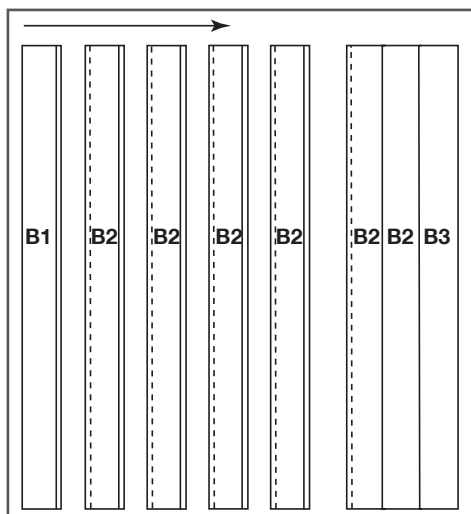

Figure 1
1. On a flat, clean surface, lay out the right slat (B3) with the groove facing to the left. Lay all middle slats (B2) next to B3 with the tongue facing to the left. Lay the left slat (B1) to the left of the last B2 slat with the groove facing right. Assemble by fitting the tongue into the groove of each piece. Gently tap into place with a rubber mallet to seat the slats together (Figure 1).